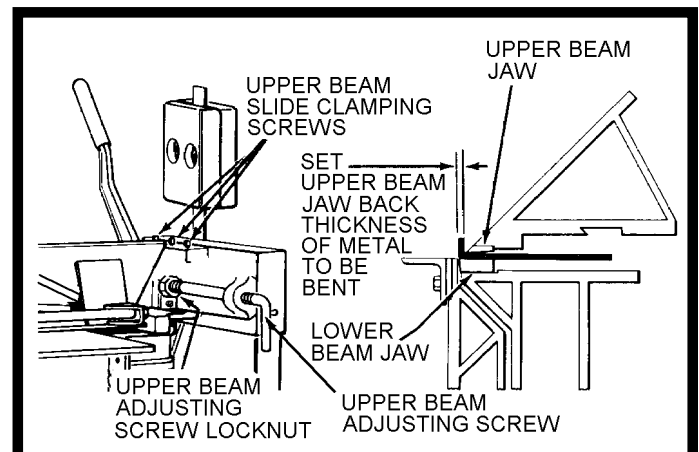
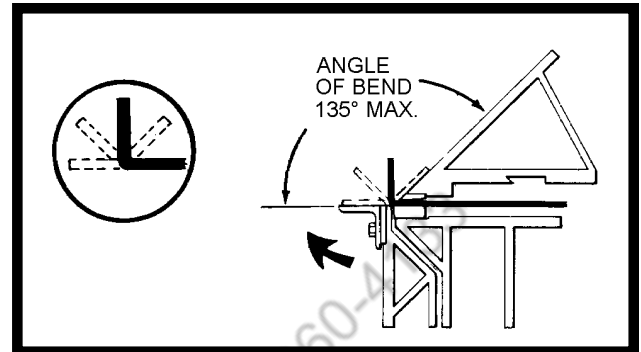
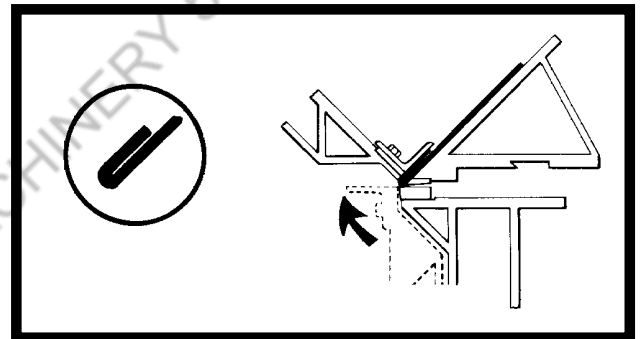
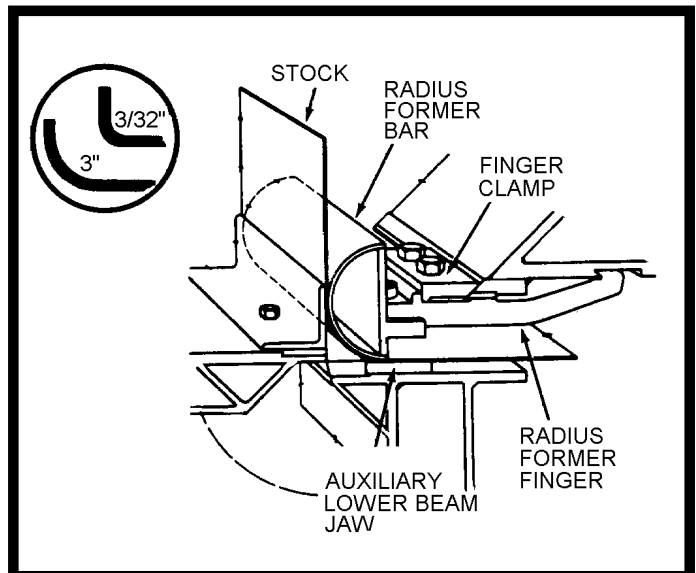

Figure 5. Adjustment of Brake Jaws for Material Thickness
Figure 8. Straight Bending
Figure 9. Flattened Seam Bending
Figure 15. Radius Bending
3. Loosen the Upper Beam Slide Clamping Screws (figure 5) and Upper Beam Adjusting Screw Lock Nuts at both ends of brake. Set entire front edge of Upper Beam Jaw back from the Lower Beam Jaw the thickness of the metal to be bent by turning the Upper Beam Adjusting Screws back as necessary. Retighten all screws and nuts.
Set Upper Beam Jaw back to thickness of metal to be bent. (See figure 5). Bends up to 135° may be achieved by raising the Apron until the desired angle of the bend is obtained. (See figure 8).
Bend metal to full 135° angle as explained above (figure 8). Remove metal from between the jaws and reposition it against the Upper Beam as shown in figure 9. Lift Apron to flatten seam.
3. When using a 1 $\frac{1}{2}$ " or larger Radius Forming Bar, an Auxiliary Lower Beam Jaw is required and should be inserted in position behind the lower Beam Jaw (figure 15).
4. Loosen the Upper Beam Slide Clamping Screws (figure 5) and Upper Beam Adjusting Screw Lock Nuts at both ends of brake. Move the entire Upper Beam back far enough to accommodate the assembled Radius Former Finger and Bar (figure 15).
6. Move Upper Beam back or forward as necessary until front edge of Radius Former Bar is back from the Lower Beam Jaw the thickness of the metal to be bent. (see figure 15). Tighten all Upper Beam Slide Clamping Screws and Adjusting Screw Lock Nuts.
5. Move Upper Beam back or forward as needed so that finger bending nose is 1/64" back from front edge of Lower Beam Jaw (figure 17). Use Upper Beam Adjusting Screws (figure 5)